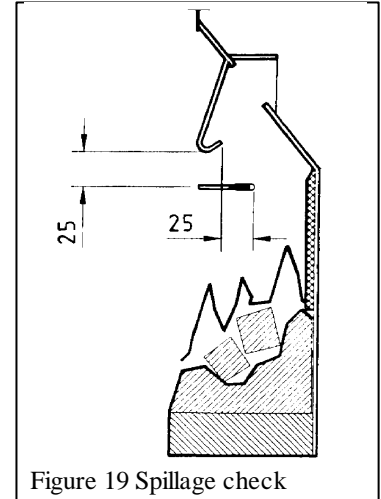

Figure 19 Spillage check
- Place the smoke match into the appliance canopy (See Fig.19)